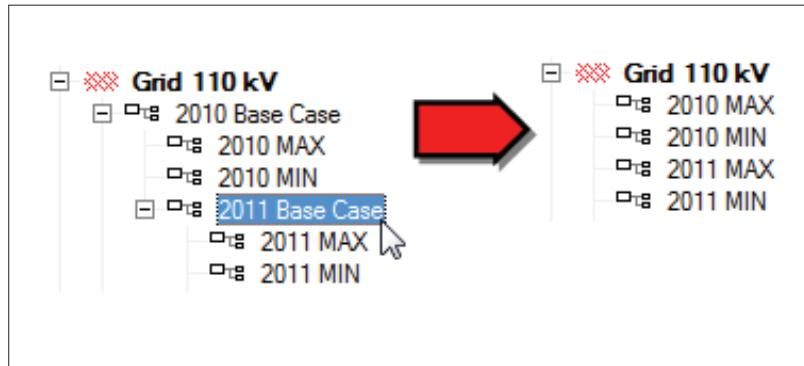

Figure 17.10.2: Reduce Revision performed for the 2011 Base Case
5. From the Data Manager, select a Study Case that uses System Stages (it should not be active), right-click and select *Reduce Revision*. This will copy both network data and operational data from the System Stages used by the study case into the recording Expansion Stage, and will delete the System Stages (to copy operational data to an Operation Scenario, an Operation Scenario must be active at this step). In this example, the “2010 Base Case” is reduced, followed by the “2011 Base Case” - this is because the complete System Stage branch, containing all System Stages between the selected stage and the target folder are reduced. Figure 17.10.2 shows the result of reducing the “2010 Base Case” and “2011 Base Case” to Variations.